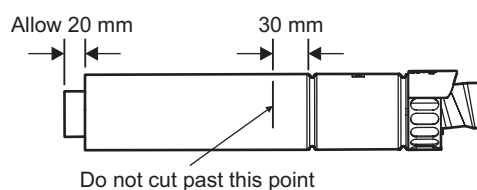

Fig. 5.10
5.7 REDUCING THE FLUE - Fig. 5.10
When the flue length required is less than the minimum stated in Section 4.6, paragraph 1, refer to Fig. 5.10.